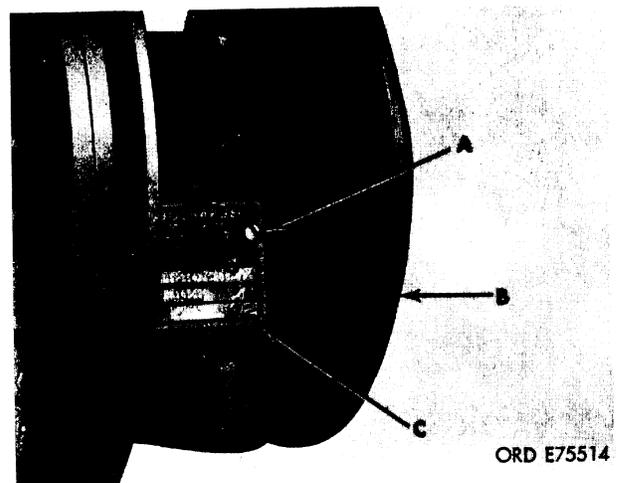

Figure 76. Removing name plate.
Refer to figure 76. Remove two self-tapping screws (A) and remove name plate (C) from bearing housing (B).